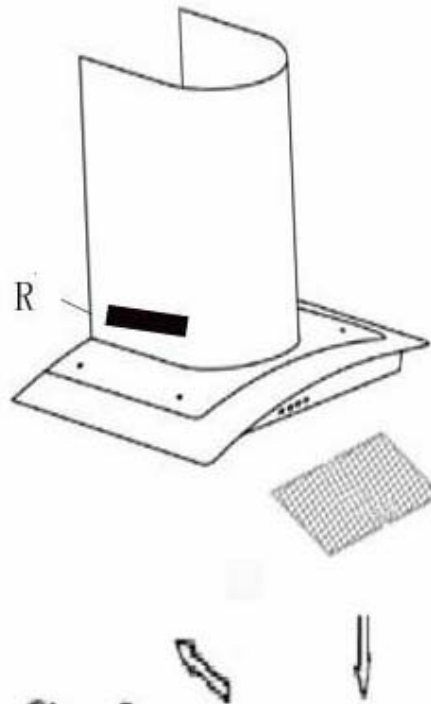

Fig. 2
- ✓ Remove the metal anti-grease filters (see Figure 2 below) and find the old bulb located in the light fixture up inside the exposed canopy. Change the halogen bulb using only olive-shaped spares with an E14 coupling, max. 40W.
- 1) Press the handle of the metal grease filter towards the rear part of the unit until it is released from the front housing, and remove it by pressing downwards (Fig. 2 - above).